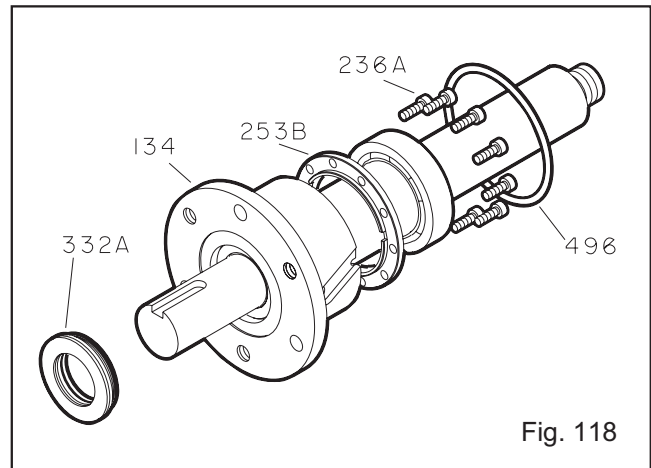

Fig. 118
11. Install clamp ring bolts (236A). Check shaft for free turning. Refer to *Table 9* for bolt torque values (Fig. 118).